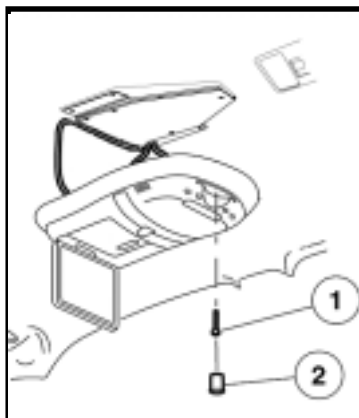

FIGURE 38
2. MOUNT THE DVD ASSEMBLY TO THE BRACKET USING A SCREWDRIVER AND THE FIVE DVD ASSEMBLY MOUNTING SCREWS AS DESCRIBED IN THE FOLLOWING. (SEE FIGURES 38 AND 39)
3. INSERT SUPPLIED RUBBER PLUG (2) INTO REAR SCREW HOLE. (SEE FIGURE 38)